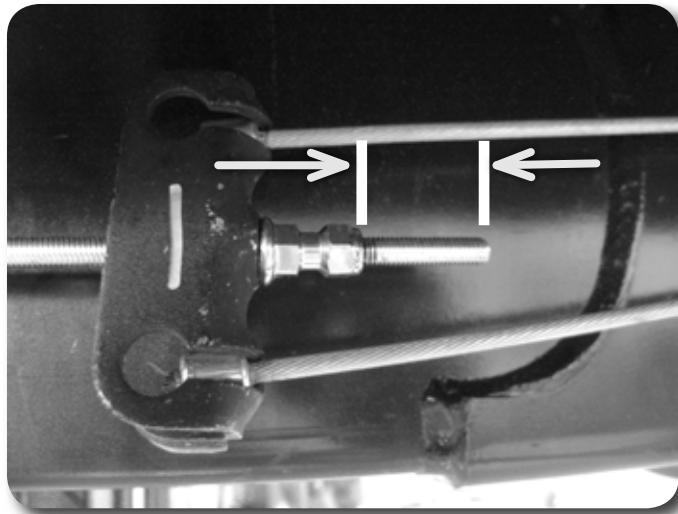

Figure 7
15. Locate the parking brake running along the driver side frame rail. Take a measurement or mark on the cable, the current brake adjustment based on the amount of threads showing past the adjustment nut. See Figure 7